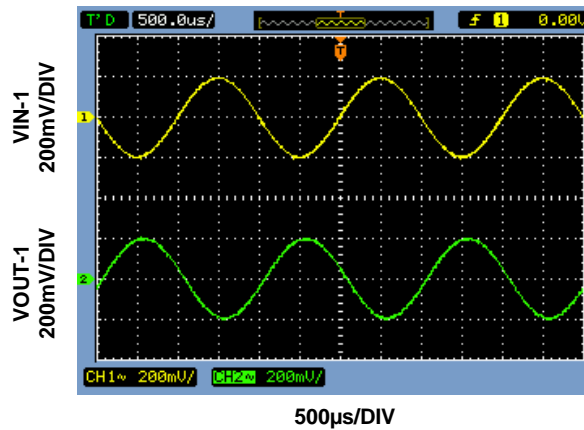

Figure 8. TS1002 and TS1004 Non-Inverting Configuration Input and Output signals
- 9) Observe the input and output signal. The output signal is an inverted version of the input signal with an output swing of approximately  $400mV_{PP}$ , corresponding to a signal gain of negative one. Figure 8 shows what the input and output signal should look like. The input signal is in yellow and the output signal is in green.